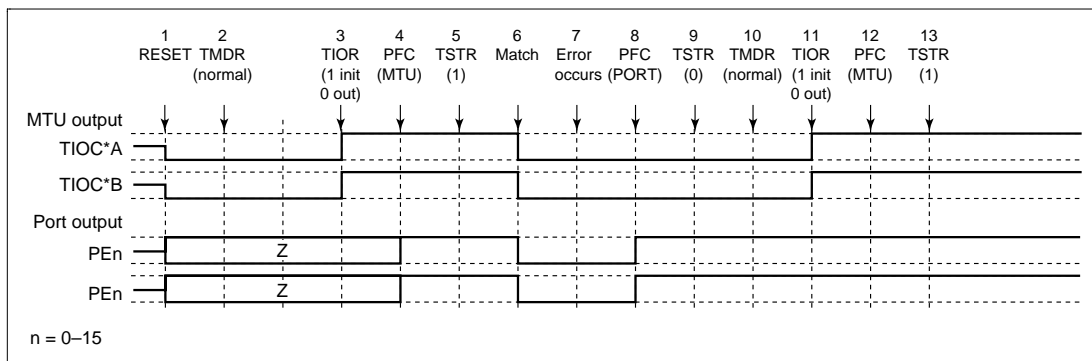

Figure 10.60 Error Occurrence in Normal Mode, Recovery in Normal Mode
(1) Operation when Error Occurs during Normal Mode Operation, and Operation is Restarted in Normal Mode: Figure 10.60 shows an explanatory diagram of the case where an error occurs in normal mode and operation is restarted in normal mode after re-setting.
1 to 9 are the same as in figure 10.60.